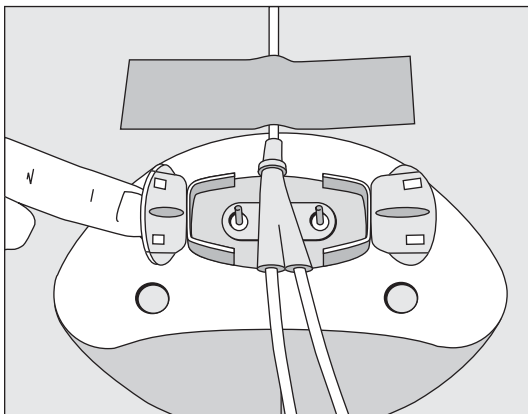
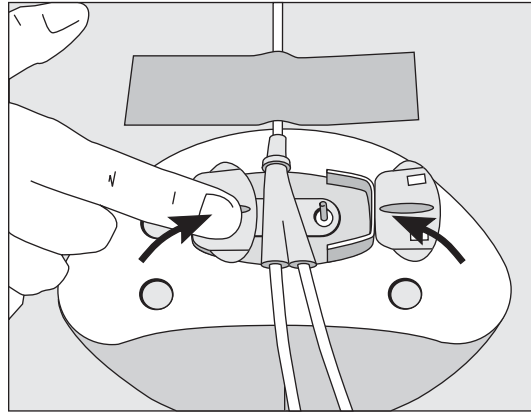

Figure 2
Figure 3
- Place suture hub wings over STATLOCK® posts and press down (refer to Figure 2). Snap STATLOCK® retainer wings to closed position to secure suture hub (refer to Figure 3).